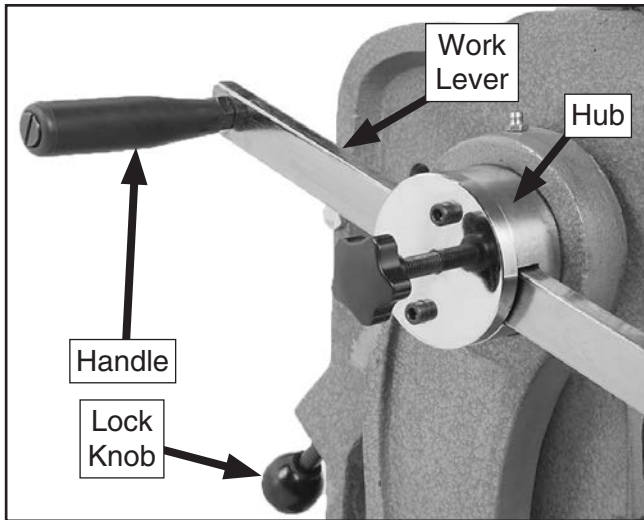

Figure 8. Work lever installation.
1. Insert both work levers into the hubs and secure in place with two lock knobs (**Figure 8**).
2. Using a 17mm wrench, install four work lever handles onto both work levers (**Figure 8**).